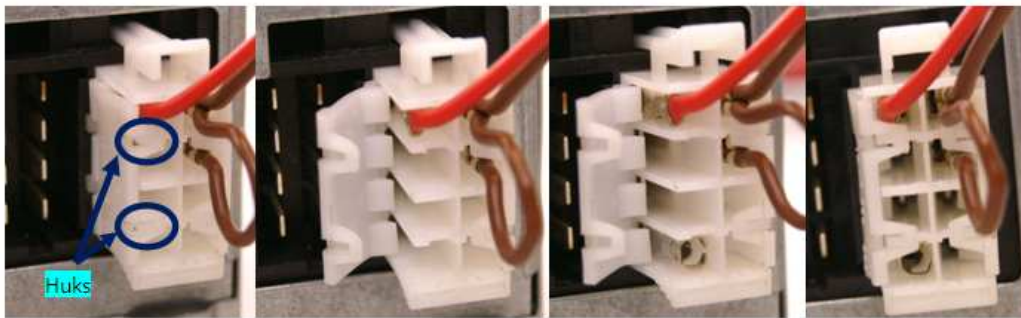

Figure 103 Adding contact on tachograph connector
- Tachograph mounted on vehicles does not have D8 contact. In order to add it, you have to undo the hooks and add the contacts (Figure 103). Contact code in Farnell system: 927368-1.